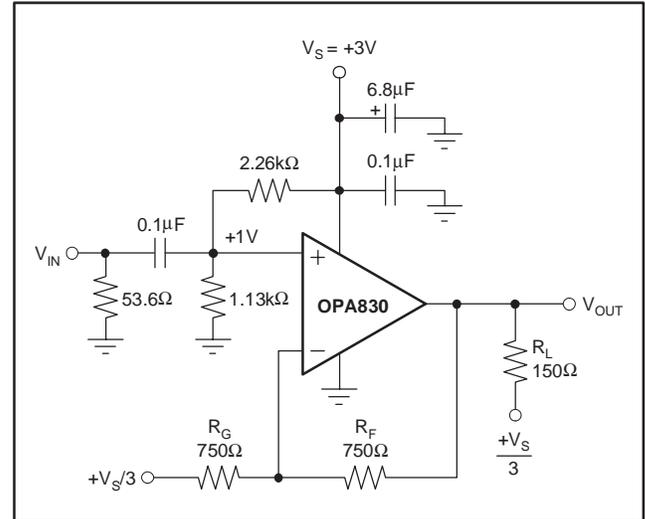
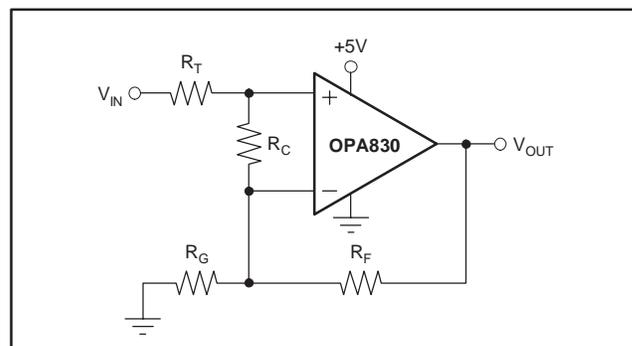

Figure 2. AC-Coupled, G = +2, +3V Single-Supply Specification and Test Circuit
Figure 7. Compensated Noninverting Amplifier
At $T_A = 25^\circ C$, $G = +2$, and $R_L = 150\Omega$ to $V_S/3$, unless otherwise noted (see Figure 2).
Figure 2 shows the AC-coupled, gain of +2 configuration used for the +3V Specifications and Typical Characteristic Curves. For test purposes, the input impedance is set to 50Ω with a resistor to ground. Voltage swings reported in
the Electrical Characteristics are taken directly at the input and output pins. For the circuit of Figure 2, the total effective load on the output at high frequencies is 150Ω || 1500Ω. The 1.13kΩ and 2.26kΩ resistors at the noninverting input provide the common-mode bias voltage. Their parallel combination equals the DC resistance at the inverting input (R_F), reducing the DC output offset due to input bias current.
Figure 7 shows a noninverting amplifier that reduces peaking at low gains. The resistor R_C compensates the OPA830 to have higher Noise Gain (NG), which reduces the AC response peaking (typically 5dB at $G = +1$ without R_C) without changing the DC gain. V_{IN} needs to be a low
Frequency response in a gain of +2 may be modified to achieve exceptional flatness simply by increasing the noise gain to 3. One way to do this, without affecting the +2 signal gain, is to add a 2.55k Ω resistor across the two inputs, as shown in Figure 7. A similar technique may be used to reduce peaking in unity-gain (voltage follower) applications. For example, by using a 750 Ω feedback resistor along with a 750 Ω resistor across the two op amp inputs, the voltage follower response will be similar to the gain of +2 response of Figure 2. Further reducing the value of the resistor across the op amp inputs will further dampen the frequency response due to increased noise gain. The OPA830 exhibits minimal bandwidth reduction going to single-supply (+5V) operation as compared with $\pm 5V$. This minimal reduction is because the internal bias control circuitry retains nearly constant quiescent current as the total supply voltage between the supply pins is changed.
The criterion for setting this R_S resistor is a maximum bandwidth, flat frequency response at the load. For a gain of +2, the frequency response at the output pin is already slightly peaked without the capacitive load, requiring relatively high values of R_S to flatten the response at the load. Increasing the noise gain will also reduce the peaking (see Figure 7).